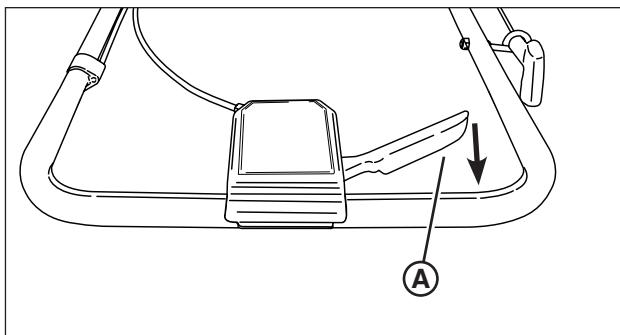

Figure 7: Propelling the mower
2. Begin squeezing the drive control (**A**, **Figure 7**) back toward the handle to engage the wheel drive and propel the mower forward. Forward speed can be increased by squeezing the drive control further back toward the handle.